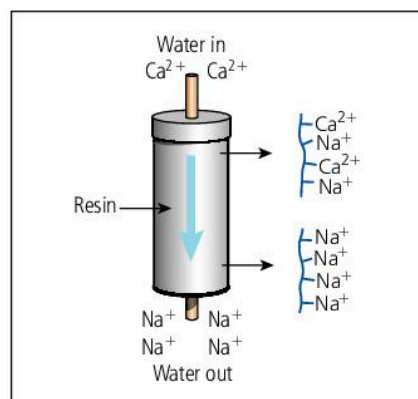

Figure 17.2.2 Ion exchange softens water because the calcium ions stay on the column after replacing the sodium ions.
- using an **ion-exchange** resin. The resin has sodium ions bound to its surface. When water containing calcium or magnesium ions is run through an ion-exchange column, the calcium (or magnesium) ions replace the sodium ions on the surface of the resin (Figure 17.2.2). When each calcium ion binds to the resin, two sodium ions are released into the water. The sodium ions do not make the water hard.